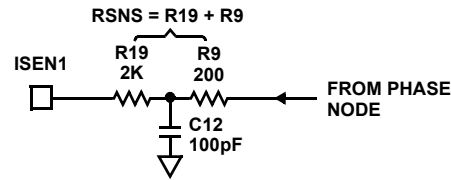

FIGURE 10. NOISE FILTER FOR ISEN1 INPUT
5. A 'T' filter consisting of a 'split' RSNS and a small, 100pF, capacitor as shown in Figure 10, may be helpful in reducing noise coupling into the ISEN input. For example, if the calculated value of RSNS1 is 2.2k Ω , dividing it as shown with a 100pF capacitor provides filtering without changing the current limit set point. For any calculated value of RSNS, keep the value of the R9 portion to approximately 200 Ω , and the remainder of the resistance in the R19 position. The 200 Ω resistor and 100pF capacitor provide effective filtering for noise above 8MHz.